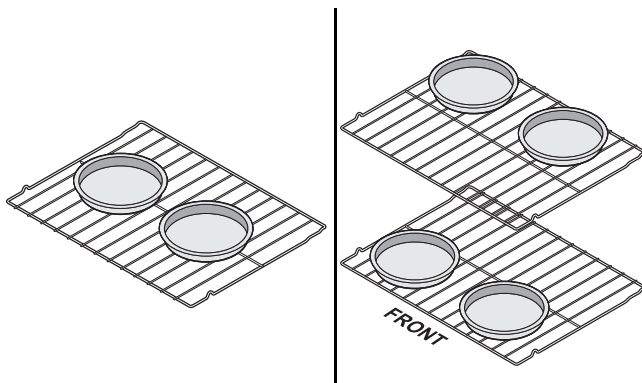

Figure 1: Baking layer cakes with one or two oven racks
- When baking using two oven racks, position cookware to allow at least 2 inches (5 cm) of space between cookware for proper air circulation and position pans as shown in Figure 1.